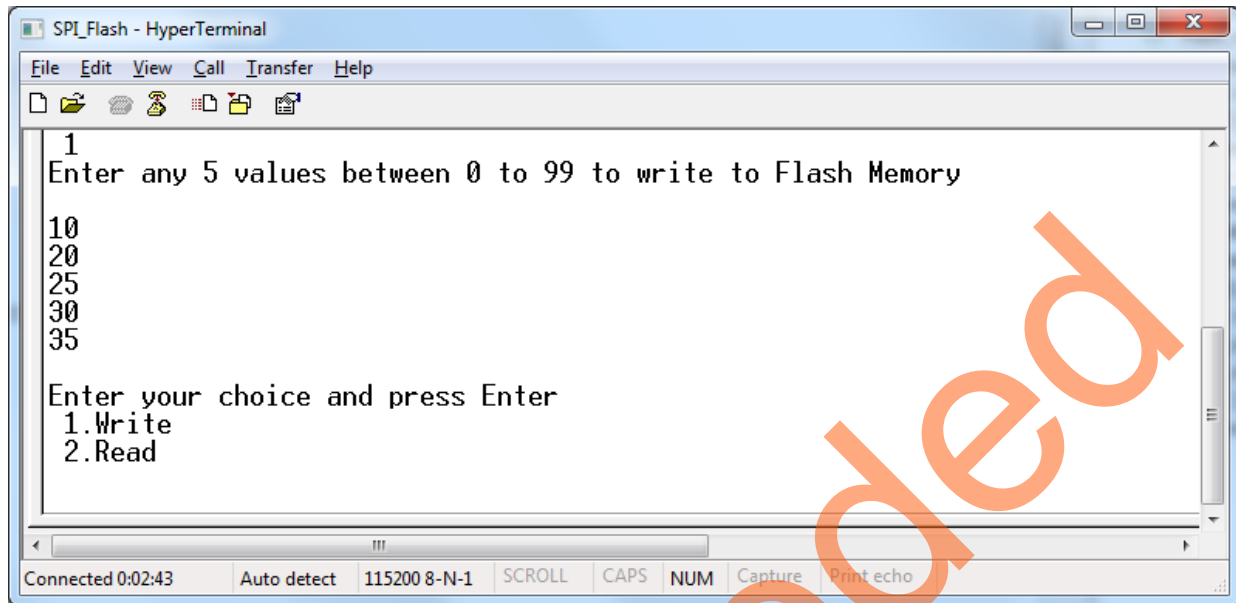

Figure 31 • HyperTerminal Window - Option 1
7. Select option 1 and enter values to write to the SPI flash memory as shown in Figure 31.